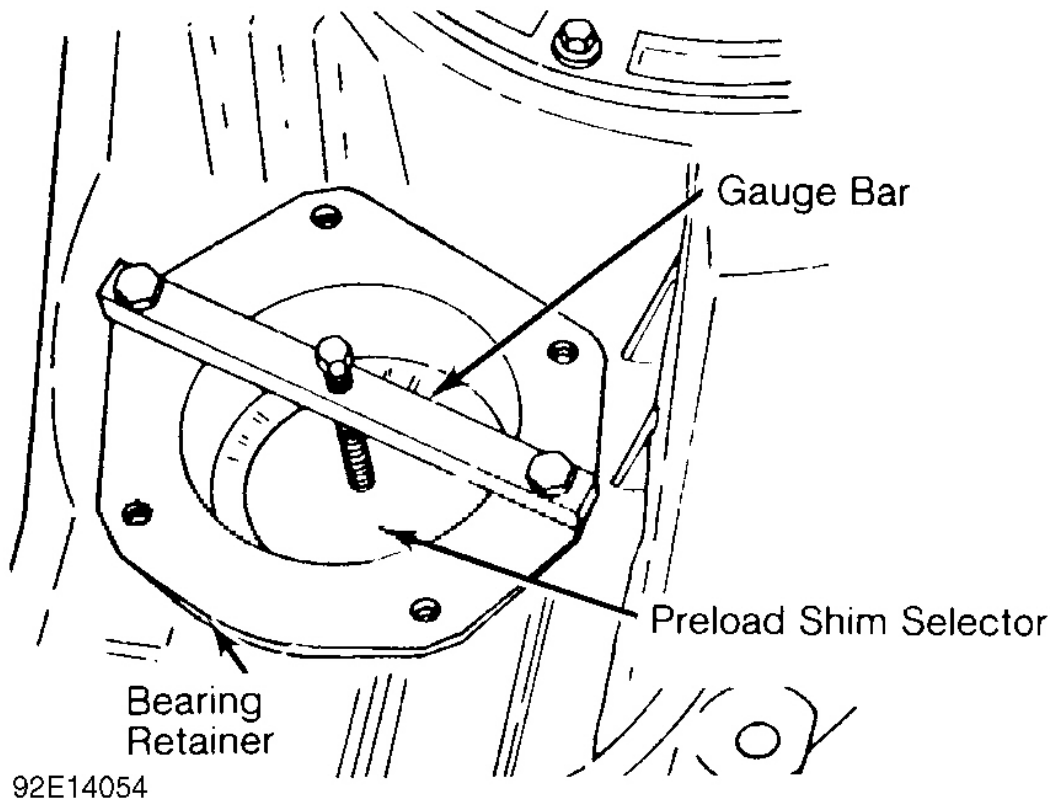

Fig. 14: Installing of Differential Bearing Preload Tool
4. Ensure tool is centered in differential seal bore. Position gauge bar of selector tool across bearing retainer and install 2 attaching bolts finger tight. See **Fig. 14** .